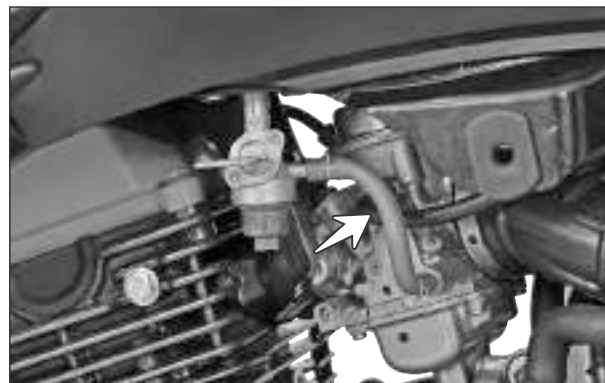

Fig. 2.67
- ! Inspect the hose fuel and connections for damage and leakage. (Fig. 2.67)